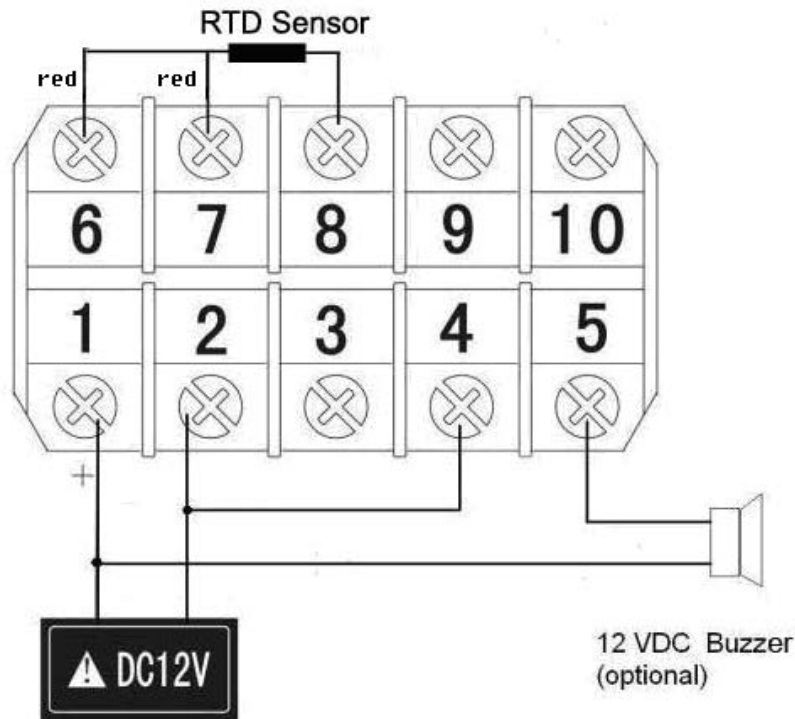

Figure 1. Wiring diagram for PT100A-NPT (2m)
- 2) To operated it, connect 12 VDC to terminal 1 (+) and 2 (-). Connect the RTD sensor which has three wires. Connect the red wires to terminal 6 and 7, and connect the white wire to 8 as shown in Figure. 1
- 8) To operated it, connect 12 VDC to terminal 1 (+) and 2 (-). Connect the RTD sensor which has three wires. Connect the red wires to terminal 6 and 7, and connect the white wire to 8 as shown in Figure. 1